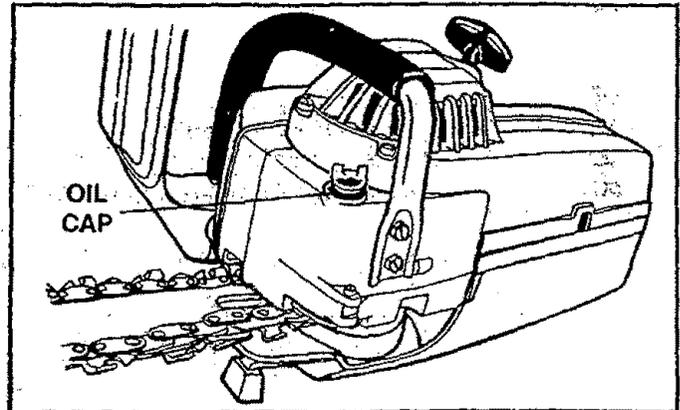

Figure 14
- Turn saw on its side with oil cap up. Figure 14.